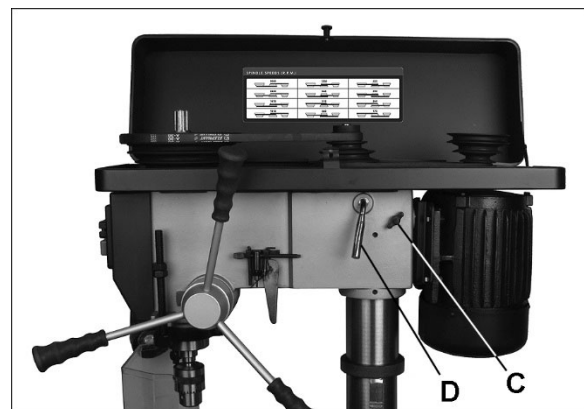

Figure 8-2: belt/speed adjustment
2. Loosen two thumb screws (C, Figure 8-2) found on each side of head assembly.
3. Rotate tension handle (D) clockwise to bring motor base as close to head as possible.
5. Rotate tension handle (D) counterclockwise to tension belts.
6. Tighten both thumb screws (C). Belts are properly tensioned when finger and thumb pressure midway between the two pulleys causes approximately 1/2-inch deflection.